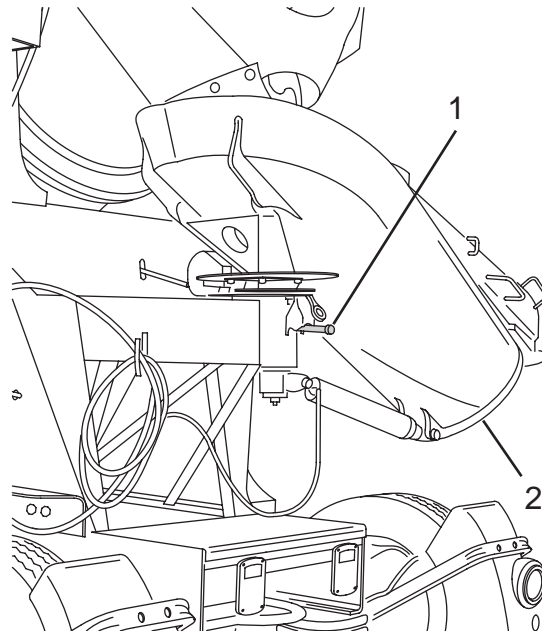

Figure 70
2. While holding the chute, pull down on the lever (Figure 70, Item 1) and move it to the right or left until the lever is seated in one of the lock positions.
3. Move the main chute (Figure 70, Item 2) to the desired position, and while holding the chute, move the lever to the center. Make sure the lever pin is fully seated into one of the holes in the chute plate before releasing the chute. Move the main chute from side to side as needed to align the pin and hole.